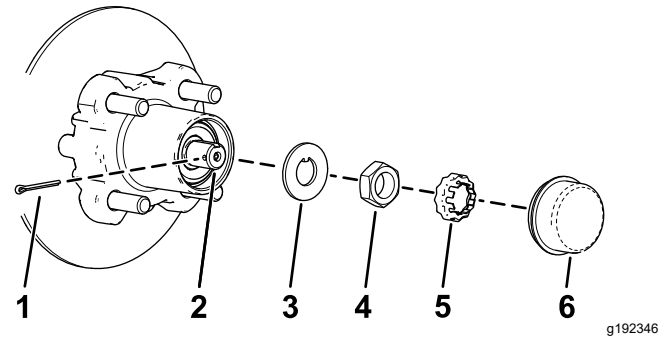
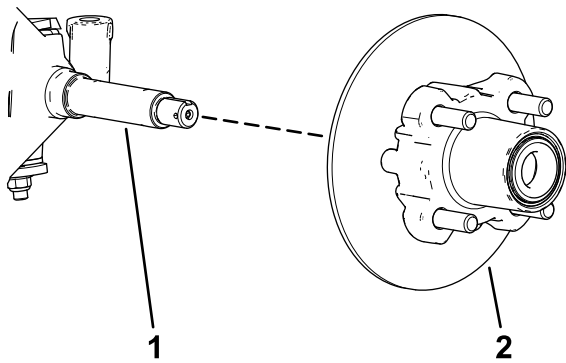

Figure 35
Figure 36
4. Remove the dust cap from the hub (Figure 35).
5. Remove the cotten pin and nut retainer from the spindle and spindle nut (Figure 35).
6. Remove the spindle nut from the spindle, and separate the hub and rotor assembly from the spindle (Figure 35 and Figure 36).